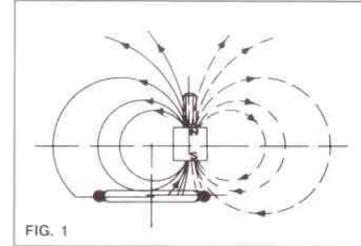

FIG. 1
*The magnetic switches TIM NSB 1240 are made by Reed contacts polarized with permanent magnets (see technical data sheet at page 2.15 of our catalogue. Download from DIESSE website <http://www.diessefluidcontrol.com>) The contact is composed of flat thin layers of magnetic material that, when subjected to a magnetic field produced by a permanent magnet, are attracted (Figure 1) forming an output signal generated without any external power supply*